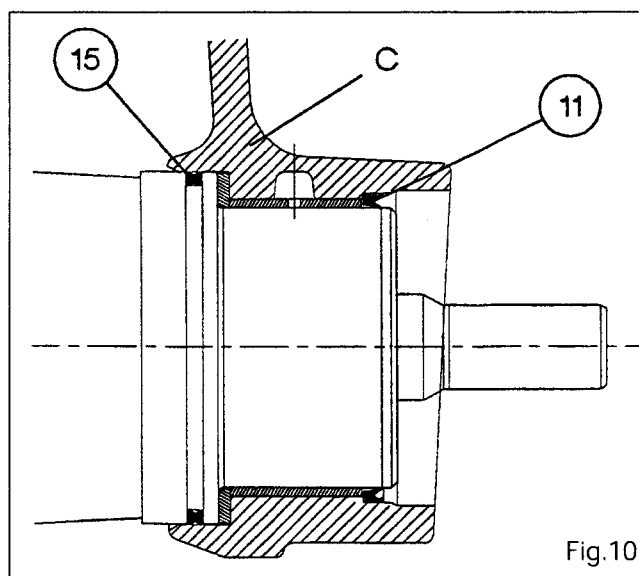

Fig.10
C : Installation with quadring seal (15) and seal (11) (Fig. 10) (lower section of front frame used as support).